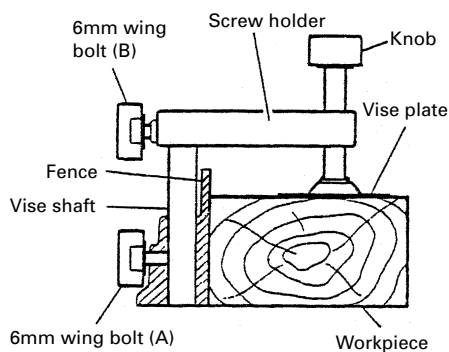

Fig. 24
- (1) The vise assembly can be mounted on either the left fence {Fence (B)} or the right fence {Fence (A)} by loosening the 6mm wing bolt (A).
- (2) The screw holder can be raised or lowered according to the height of the workpiece by loosening the 6mm wing bolt (B). After the adjustment, firmly tighten the 6mm wing bolt (B) and fix the screw holder.
- (3) Turn the upper knob and securely fix the workpiece in position (Fig. 24).